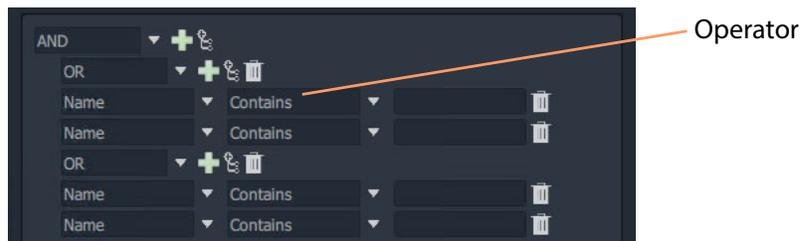

Fig. 5-61: Second Expression Item Added
- 8 Add a second expression item under the new OR item. See Figure 5-61.